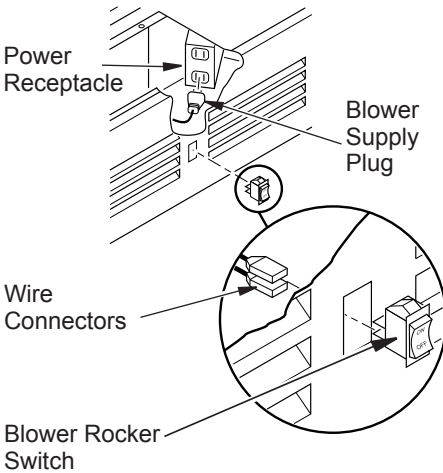

Figure 5: Connecting Switch and Supply plug
1. Remove 2 connectors from ON/OFF rocker switch located on wiring harness. See Figure 5.
4. Insert supply plug into one of the available power receptacles at the right side of compartment. See Figure 5.